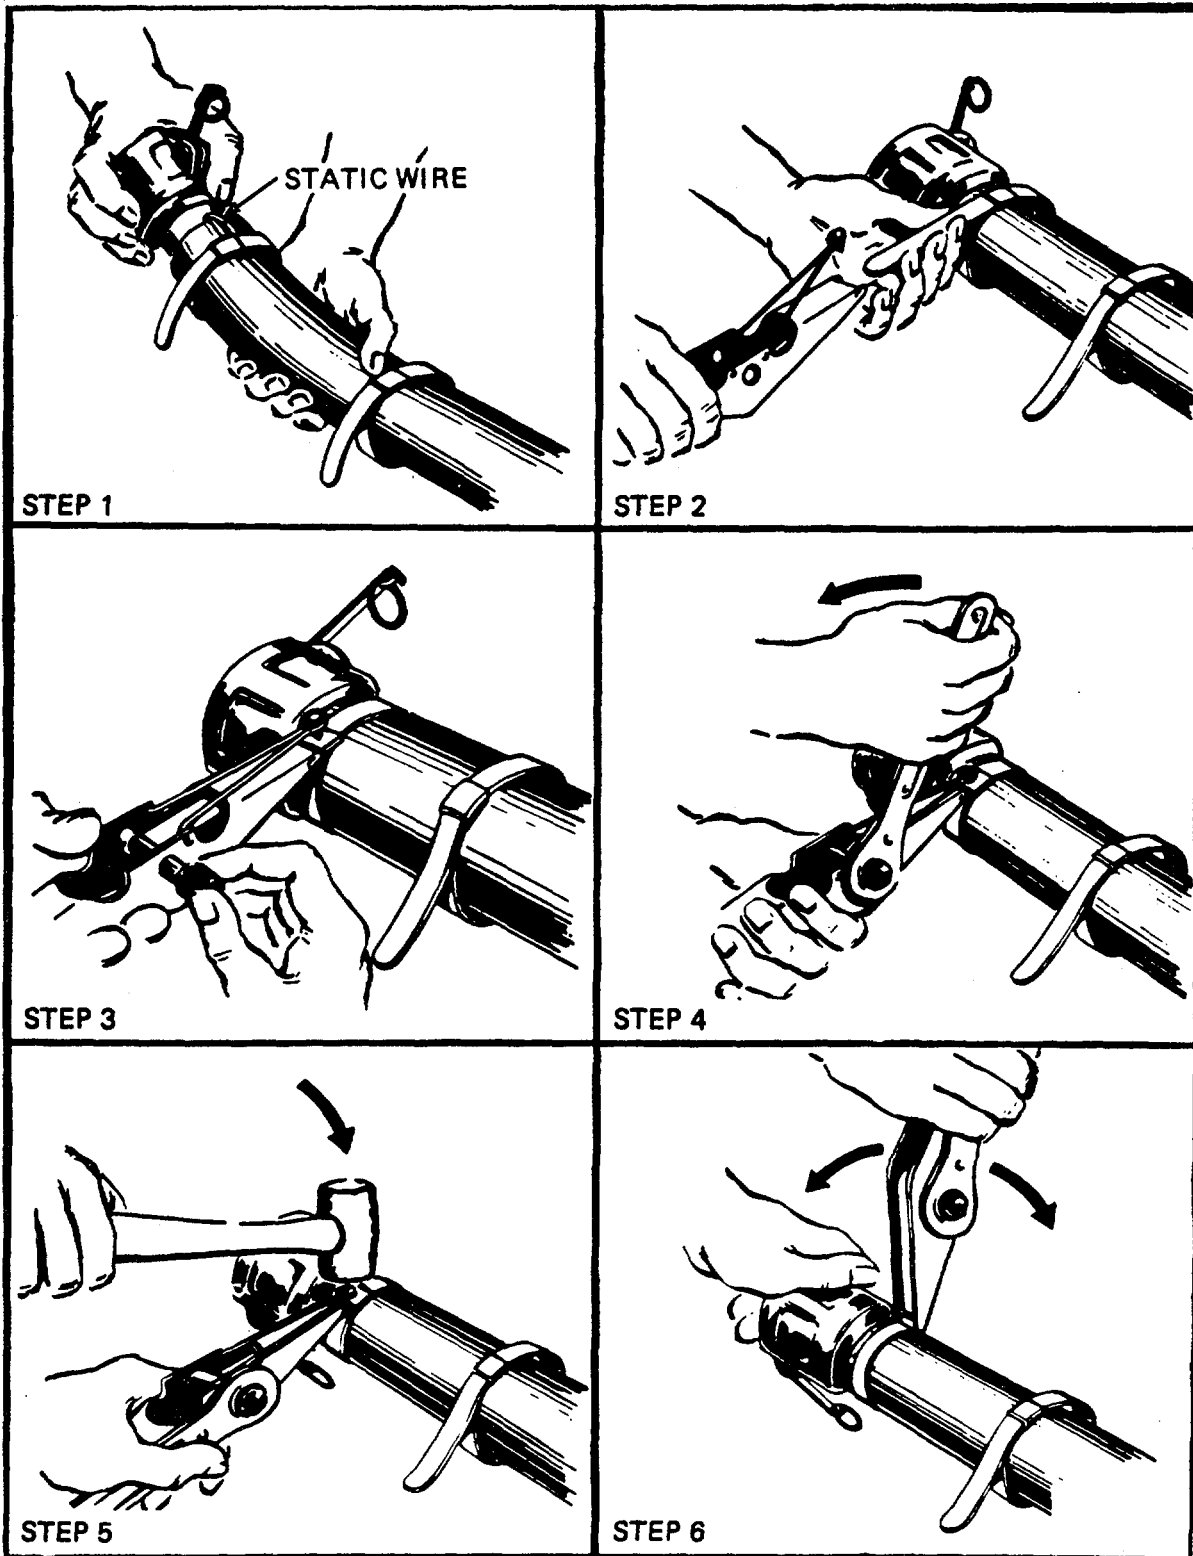

Figure 4-2. Clamp Installation Using Clamping Tool (Appendix B, Item 2).
- (1) Install female coupling half (2), male coupling half (3), and new hose clamps (1) into hose (4) by performing the following steps (a) through (h). (Refer to Figure 4-2.)